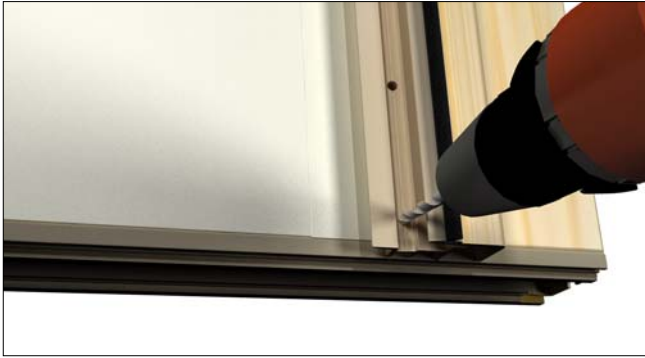

Figure 5
2. Pre-drill holes with a 1/8" drill bit through the pre-punched holes in the interlock. Secure interlock with existing interlock screws. See figure 5.